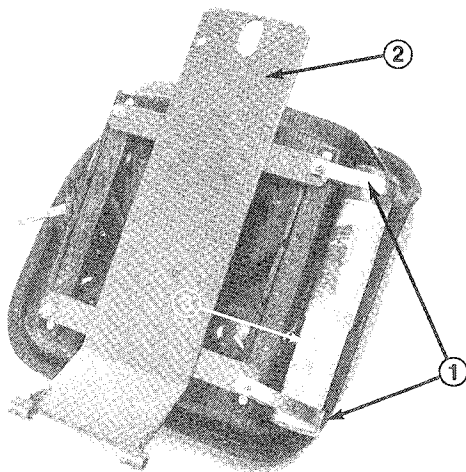

Figure 4
8. (Model 30739) Reinstall sealing plate to frame, above fuel tank with flange screw, truss head screw, (2) locknuts and spacer previously removed.
10. Loosely secure (2) R-clamps to right side of seat bottom with (2) capscrews supplied in kit (Fig. 4). Install manual tube into R-clamps and tighten capscrews (Fig. 4).